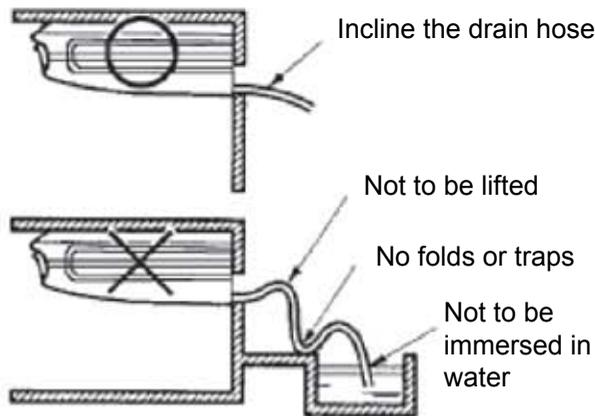
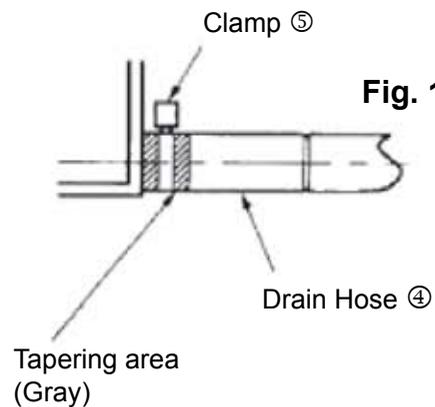
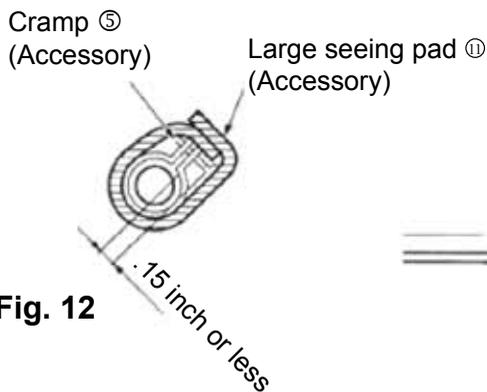

Fig. 10
Fig. 11
Fig. 12
- (1). Drain piping.
- Make the drainpipe as short as possible and slope downward at a gradient of at least 1/100 to prevent air pockets. (Refer to Fig. 10).
- Use the attached drain hose ④ and clamp ⑤.
- Insert the drain hose completely into the drain socket. Tighten the clamp within the range of gray tape until the screw head is less than .15 inch from the hose. (Refer to Fig. 11, Fig. 12).
- Wrap the attached sealing pad 11 over the clamp and drain hose to insulate. (Refer to Fig. 12).